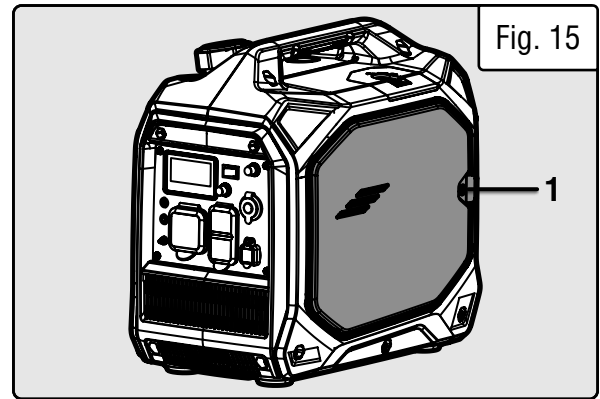
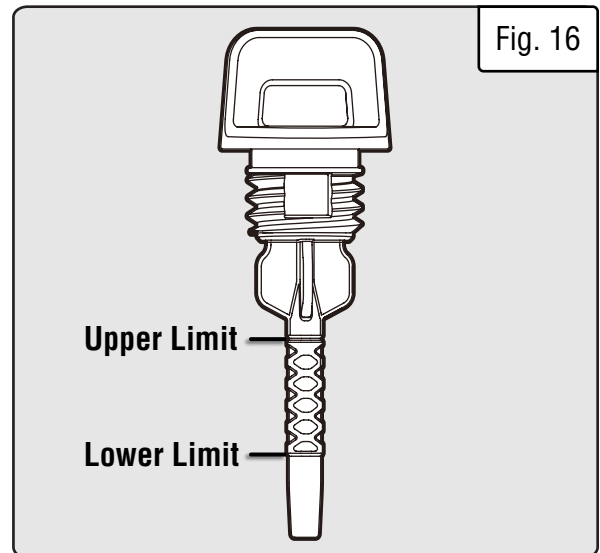

Fig. 15
Fig. 16
2. Unscrew the side panel screw (Fig. 15 - 1) and remove the side panel (to the right of the control panel). Remove and wipe the oil dipstick (Fig. 16) with a clean rag.